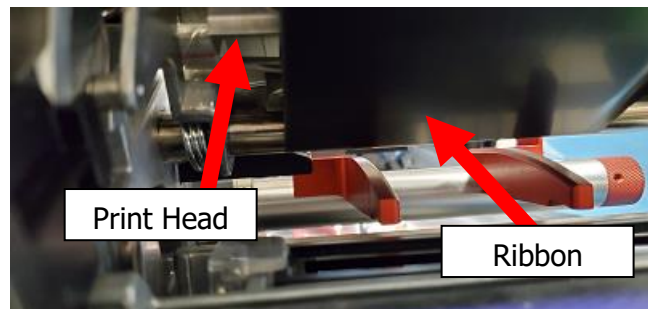

Figure 3
4. Route the ribbon under the print head mechanism (Figure 3) and around the back of the **Ribbon Take-Up Core**, then tucking it under itself to keep it from sliding off.